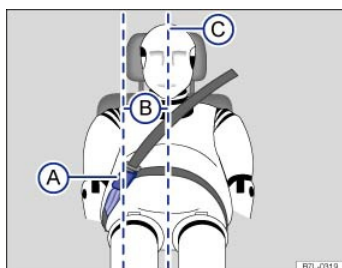

Fig. 68 Positioning of the safety belt extender.
Key to ⇒ Fig. 68 :
- Never use a safety belt extender if the distance (B) between the front edge of the safety belt extender buckle (A) and the centerline of the person using the safety belt extender ⇒ Fig. 68② is less than 6 inches (15 cm).